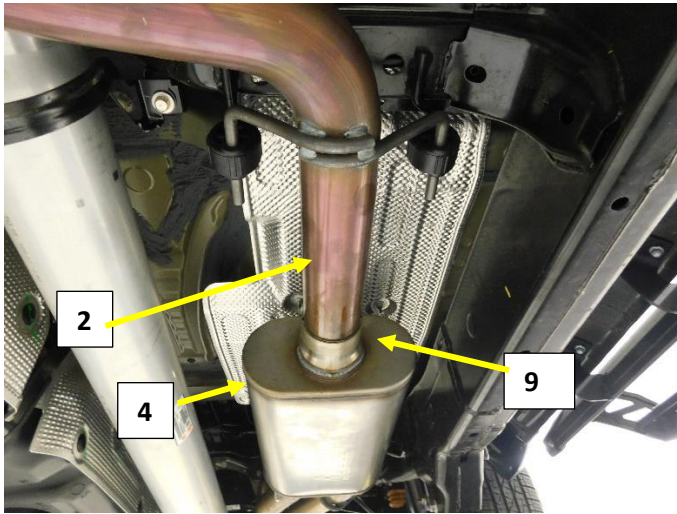

Figure.7
5. Install a 3" band clamp (9) on to the inlet of the 73688-Z muffler (4). Fig. 7
6. Install the muffler (4) on to the muffler inlet pipe (2), align the muffler with the logo down and muffler case level. Tighten the clamp. Fig. 7 **Note: Use extension pipe 26984H (3) between Muffler and inlet pipe for 145.1" wheelbase**